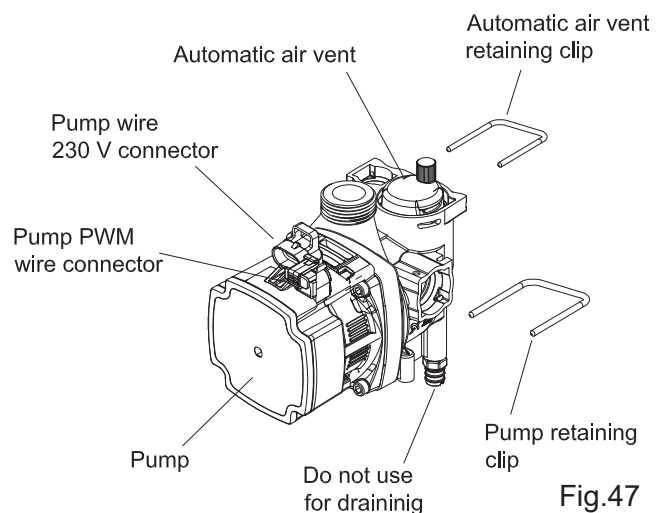

Fig.47
Remove diverter valve motor switch, to allow access and unscrew the C.H.diverter valve (fig.47).
**8.15 TO REMOVE/REPLACE PUMP (Fig.47)**
**8.16 TO REMOVE/REPLACE AUTOMATIC AIR VENT (Fig. 47)**